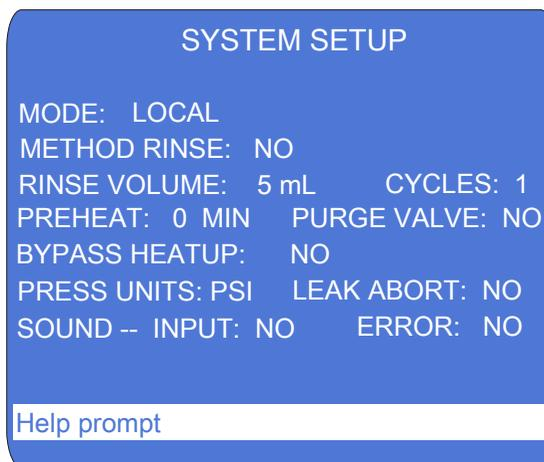

Figure 3-14. System Setup Screen
1. Press **Menu** to display the **MAIN MENU OF SCREENS** and press **5** to display the **SYSTEM SETUP** screen (see Figure 3-14).